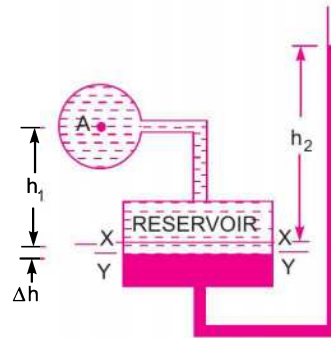

Fig. 2.15 Vertical single column manometer.
**2.6.3 Single Column Manometer.** Single column manometer is a modified form of a U-tube manometer in which a reservoir, having a large cross-sectional area (about 100 times) as compared to the area of the tube is connected to one of the limbs (say left limb) of the manometer as shown in Fig. 2.15. Due to large cross-sectional area of the reservoir, for any variation in pressure, the change in the liquid level in the reservoir will be very small which may be neglected and hence the pressure is given by the height of liquid in the other limb. The other limb may be vertical or inclined. Thus there are two types of single column manometer as :
Fig. 2.15 shows the vertical single column manometer. Let  $X-X$  be the datum line in the reservoir and in the right limb of the manometer, when it is not connected to the pipe. When the manometer is
Now consider the datum line Y-Y as shown in Fig. 2.15. Then pressure in the right limb above Y-Y.